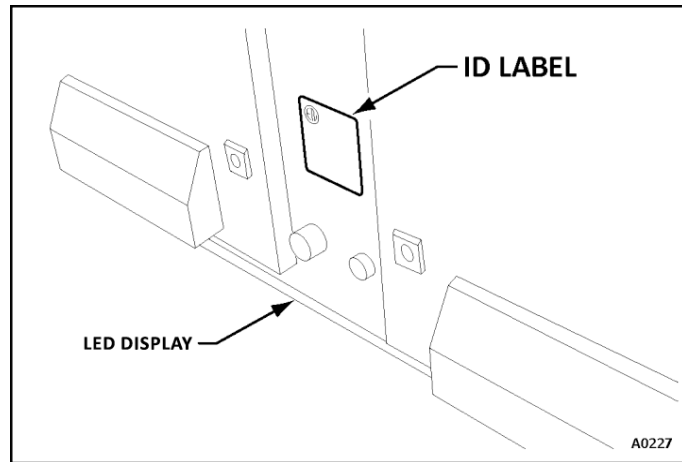

FIGURE 23 — ID LABEL
- Total power required, when all LEDs or lamps are turned on is listed on the identification label located on the back of the LED display. See Figure 23 on page 27. Wire size should be determined by a local electrician typically determined by both load and wire lengths